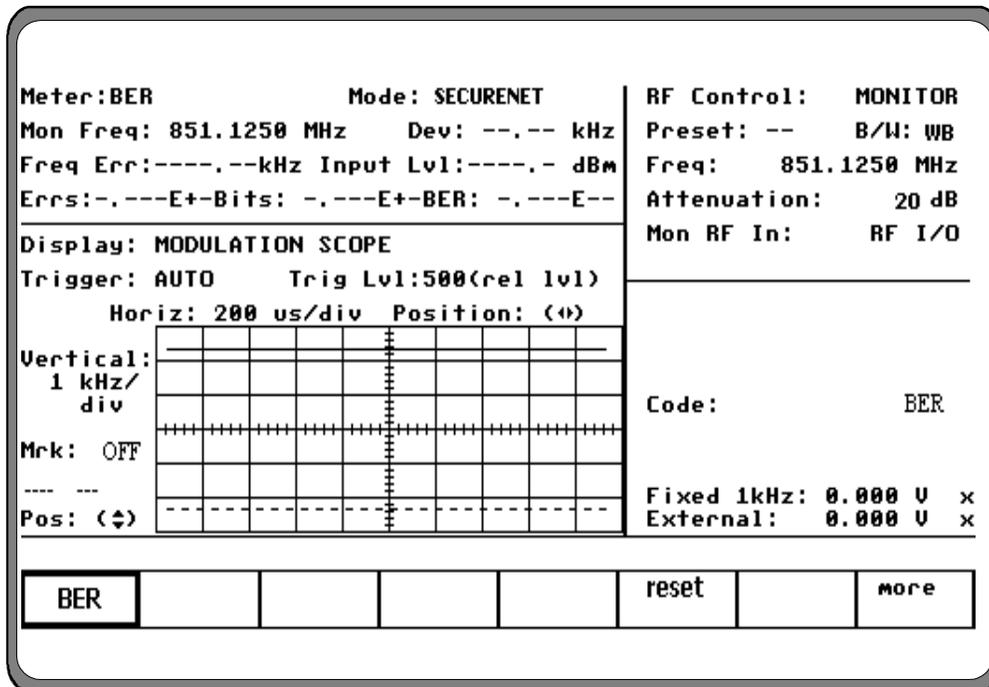

Figure 14-2. Radio (BER Test Mode) BER Meter Sample
- Access the BER Meter by placing the cursor in the Display zone's "Meter:" field and pressing the more softkey until the BER softkey is presented. Select BER via the softkey to display the BER Meter. A screen similar to figure14-2 appears.